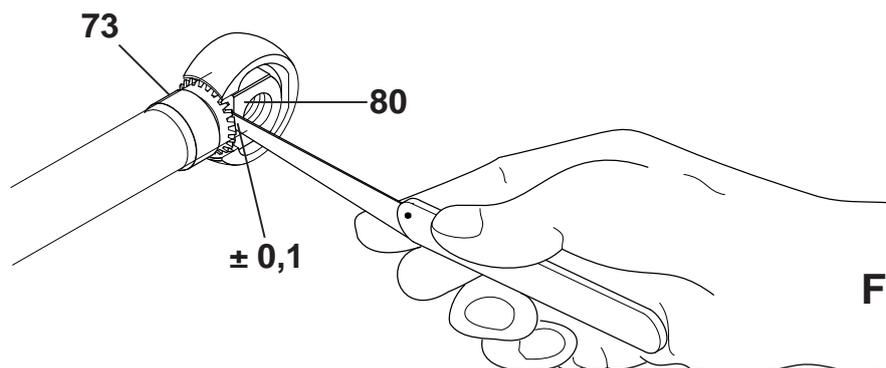

Fig. 5.12
a) Unscrew the bottom casing **pos.40** until the semi-spherical end part and output shaft are unable to turn.
b) Slowly screw the casing **pos.40** so that there is a play of approx.0.1 mm between the teeth of the pinion **pos.73** and the pin **pos.80** (check with gauge) **fig.5.12**.